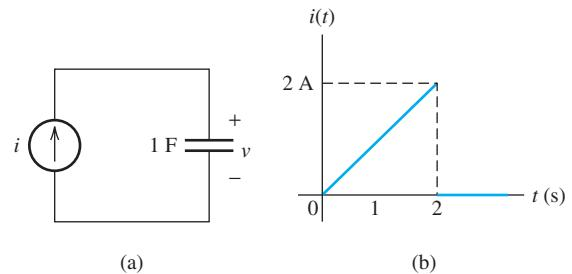

FIGURE P4.16 (a) Capacitor circuit; (b) waveform of $i(t)$.
- 4.16** (H) For the circuit shown in Figure P4.16(a), $i(t)$ is given in Figure P4.16(b). Assume the initial value of v , $v(0) = 0$.